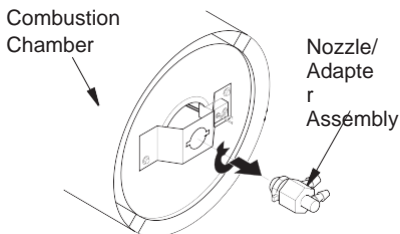

Figure 18 - Removing Nozzle/Adapter
4. Turn nozzle assembly 1/4 turn to left and pull toward motor to remove (see Figure 18).
10. Attach nozzle assembly to nozzle adapter bracket (see Figure 18, page 12).